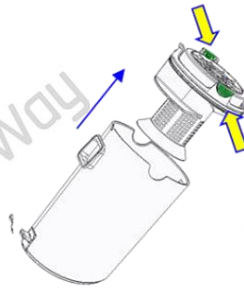

Fig. 16
2. Gently remove HEPA and cyclone inner parts by pressing the two plastic parts ("ears") on the two sides as shown with the arrows in fig. 16.